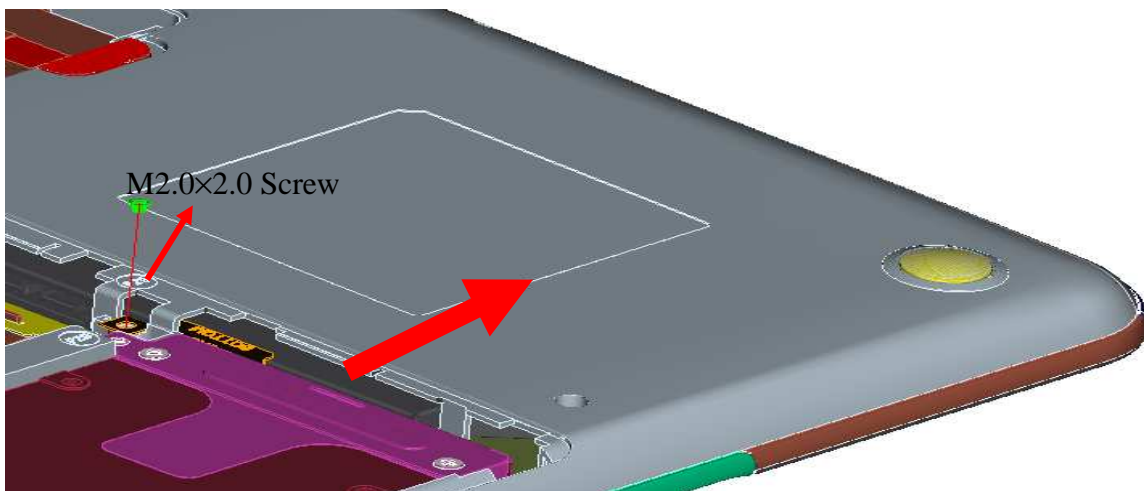

Figure 4-4-1 Disconnect an optical disk drive
The following describe the procedure for removing an optical disk drive. (See Figure 4-4-1)
3. Secure the ODD drive with the following screw. (See Figure 4-4-1)